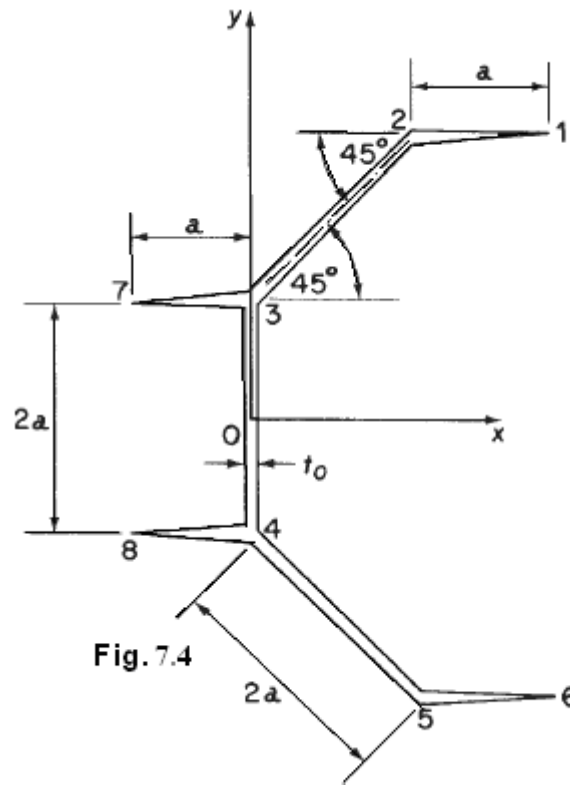

Figure 2:
4. The thin-walled section shown in Figure 2 is symmetrical about the x axis. The thickness  $t_0$  of the centre web 34 is constant, while the thickness of the other walls varies linearly from  $t_0$  at points 3 and 4 to zero at the open ends 1, 6, 7 and 8. Determine the St. Venant torsion constant  $J$  for the section and also the maximum value of the shear stress due to a torque  $T$ . If the section is constrained to twist